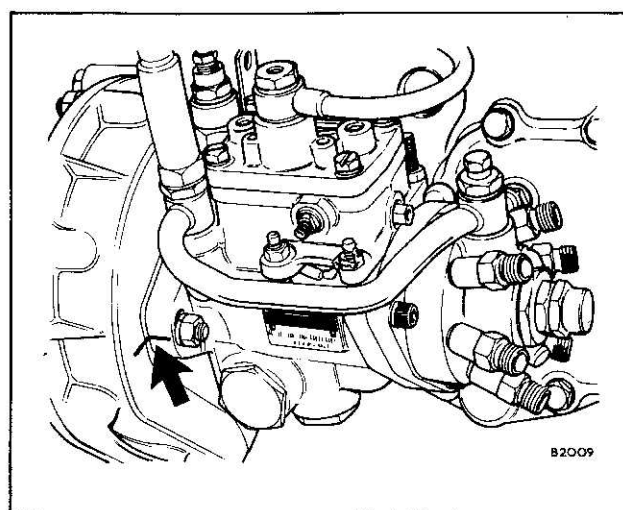

Fig. 3
5. If pump is to be refitted, ensure that there is a mark on the timing case that is in line with the mark on the pump flange (Fig. 3).
3. If refitting original pump, position pump with timing marks aligned (Fig. 3) and secure pump. If fitting new pump, time pump as detailed in A315.